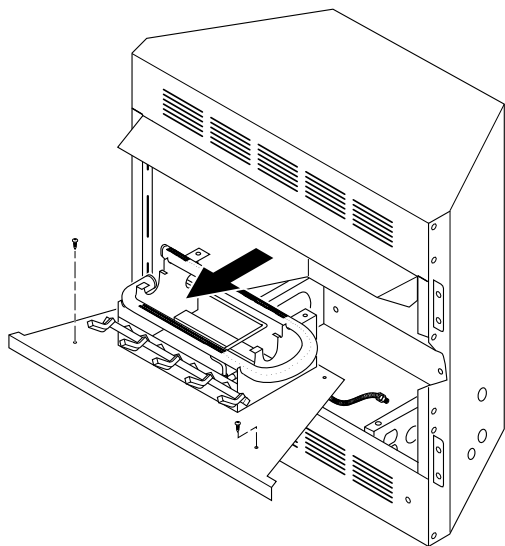

Figure 23 - Removing Log Base Assembly From Fireplace
2. Remove screws that attach log base assembly to fireplace (see Figure 23, page 14). Carefully lift up log base assembly and remove from fireplace (see Figure 23, page 14).